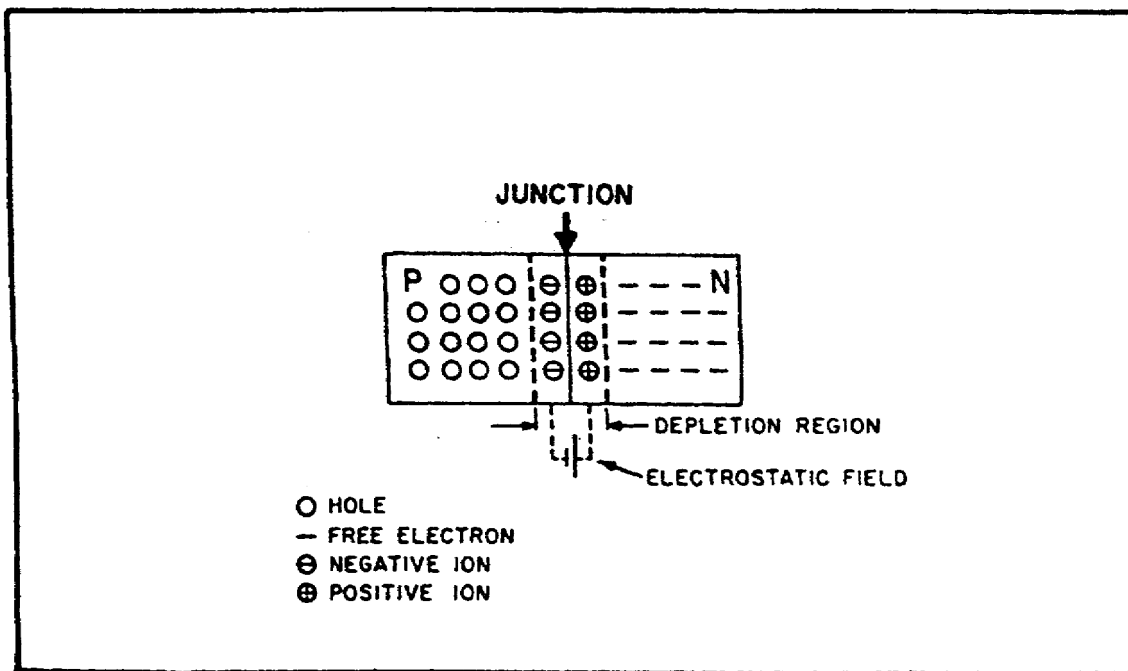

FIGURE 81. PN JUNCTION BARRIER FORMATION.
(3) *Junction Barrier.* A junction barrier is an electrostatic field which has been created by joining a section of N material with a section of P material. Since holes and electrons must overcome this field to cross the junction, the electrostatic field is commonly called a BARRIER. Because there is a lack or depletion of free electrons and holes in the area around the barrier, this area has become known as the DEPLETION REGION- (figure 81).